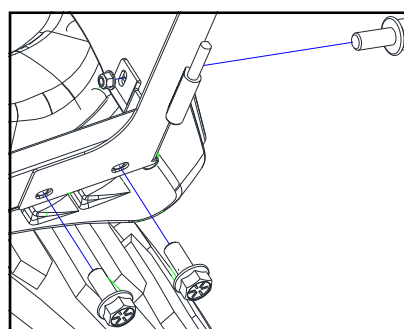

Fig. 5.1
5.1 Per Figure 5.1, fasten the left contour to the hinge plate using the factory installed inserts and hardware listed below. **Install finger tight at this time.**